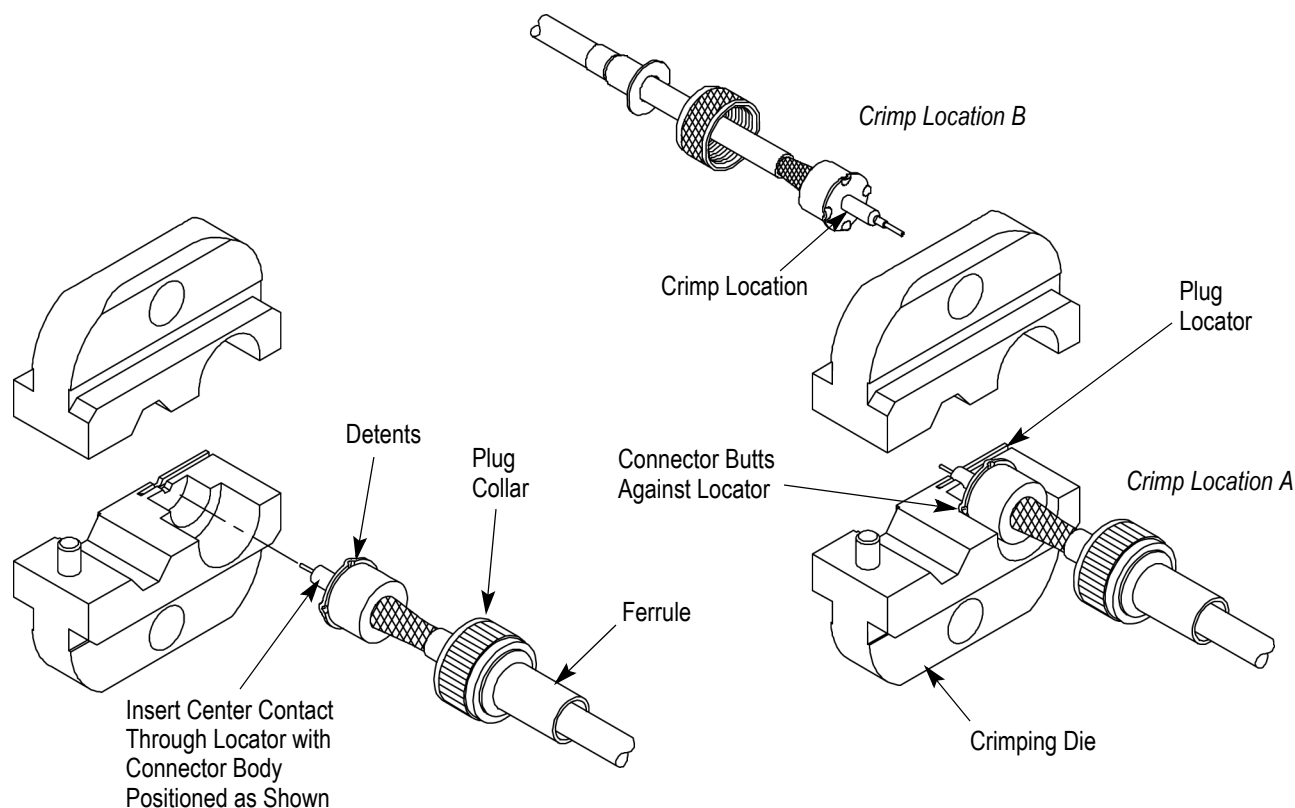

Figure 4
5. Place center contact in open tool with face of connector against locator. See Figure 4. Detents on the face of the connector must span the locator.